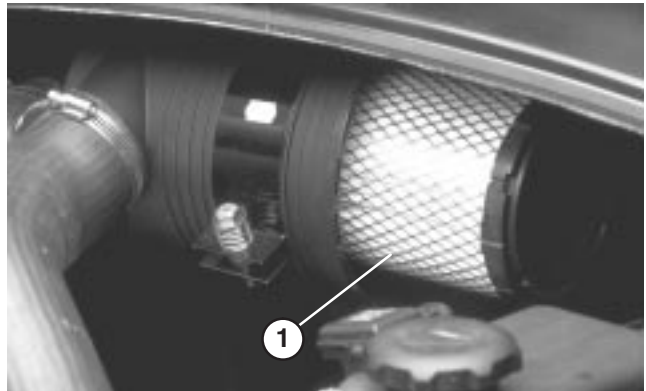

Figure 22
2. Gently slide filter (Fig. 22) out of air cleaner body to reduce the amount of dust dislodged. Avoid knocking filter against air cleaner body.